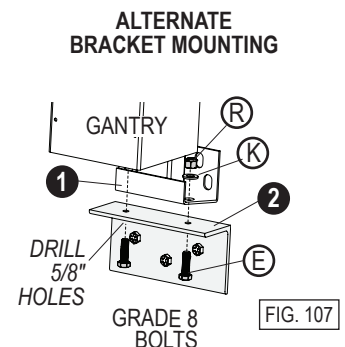

FIG. 107
- If possible, weld the **gantry brackets (1)** to the **standard brackets (2)**.
- Alternatively, drill 5/8-inch holes and fasten with Grade 8 **hex bolts (E)** and secure with **washers (K)** and **nylon lock nuts (R)**, as shown in Figure 107.